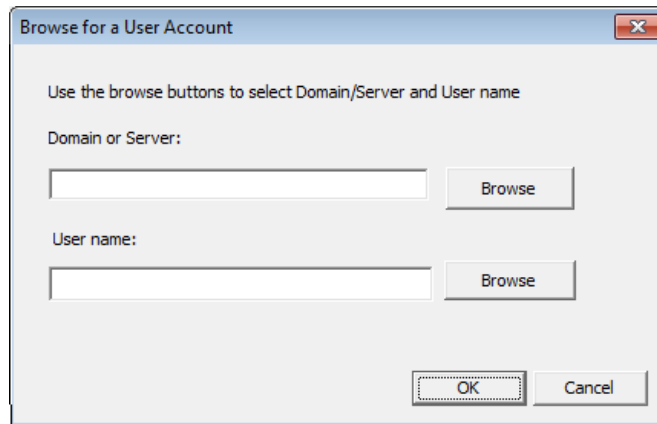

Figure 26. Browse for a User Account Dialog Box
- f. Click **Browse** to launch the Browse for a User Account dialog box shown in Figure 26.